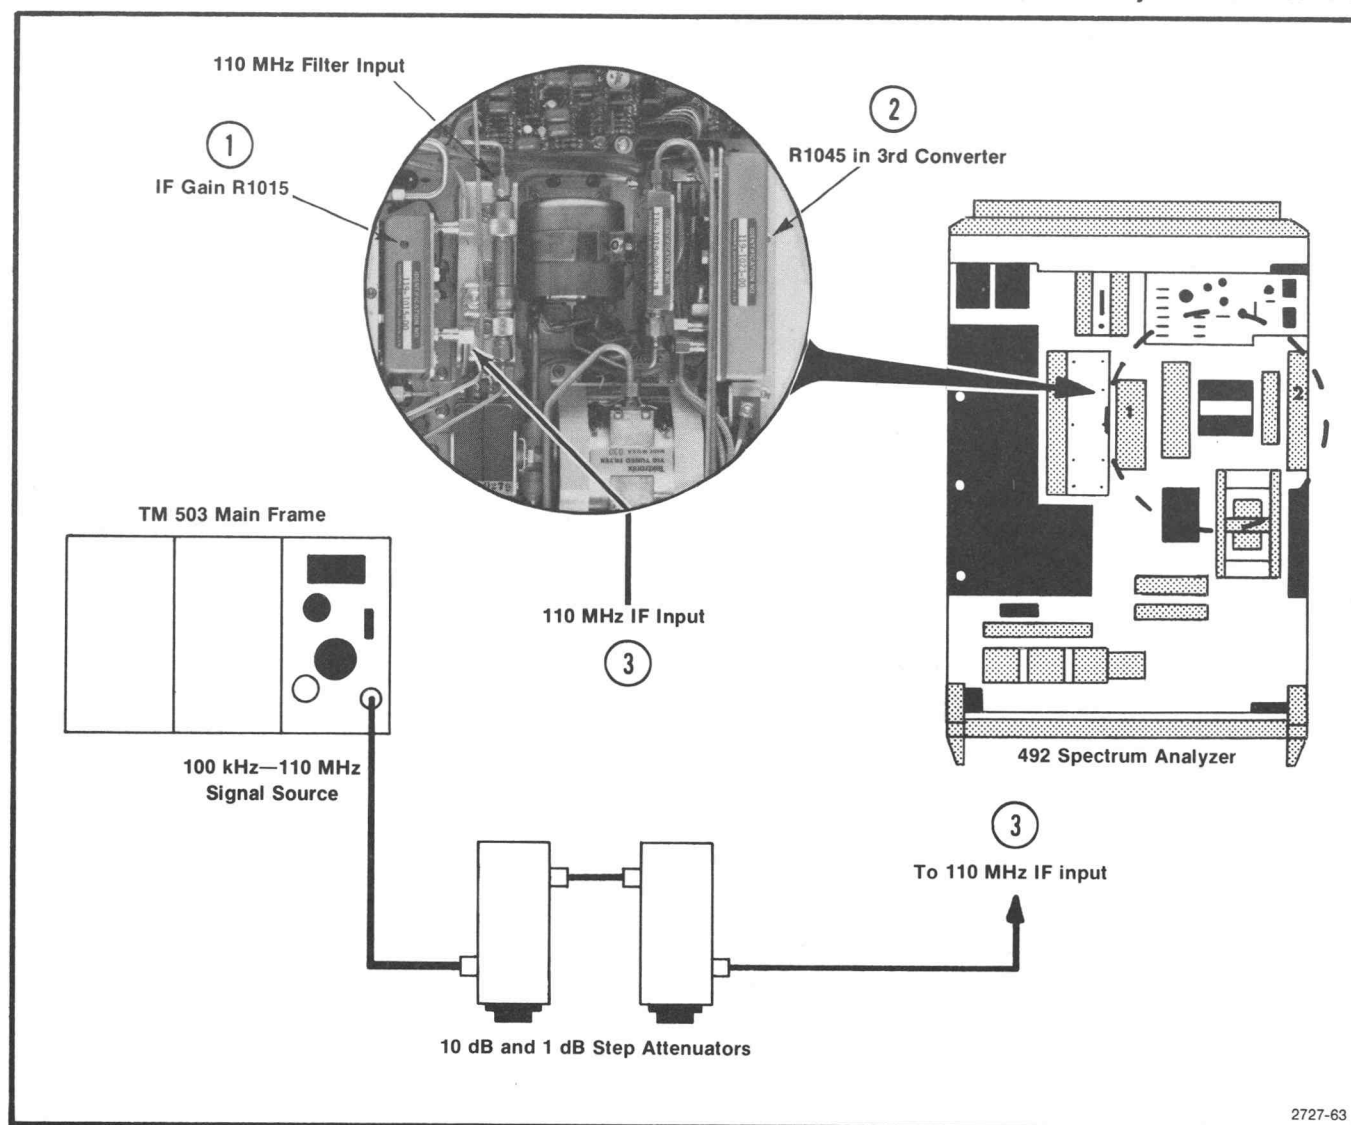

Fig. 3-46. Test equipment setup for adjusting IF gain and the location of the calibrator level adjustment.
The calibrator output level is calibrated to a known reference. The procedure for checking the level is described in Step 3 of the Performance Check part. Output level is adjusted with Cal Level, R1045 (Fig. 3-46). An adjustable capacitor, C3031 within the cover, is only adjusted if the oscillator fails to start. It is adjusted for maximum output.
a. Set the RESOLUTION BANDWIDTH to 100 kHz, REF LEVEL to -20 dBm, and apply -20 dBm 110 MHz signal, through the step attenuators, to the input (J365) of the 110 MHz filter, FL36 (Fig. 3-46).
b. Set the step attenuators for 0 dB attenuation then adjust the signal source output for a display reference of seven (7) divisions.
d. Set the step attenuators for 21 dB then apply the 110 MHz signal to the input (J321) of the 110 MHz IF amplifier (Fig. 3-46).